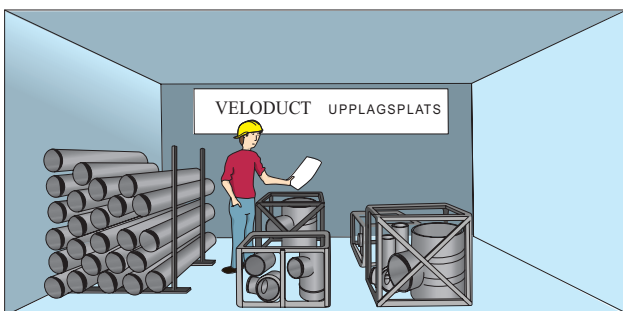

Fig. 3
2. Collect the necessary fittings and tubes. Check that they aren't damaged in any way that would cause air leakage in the finished ducting system, such as holes left after rivets/screws have been removed from reused parts. If the storage area is well arranged and has good weather protection, the components will be easier to find, and the risk of damage or wastage will be reduced. A sign such as that shown in Fig. 3 will facilitate the delivery of materials.